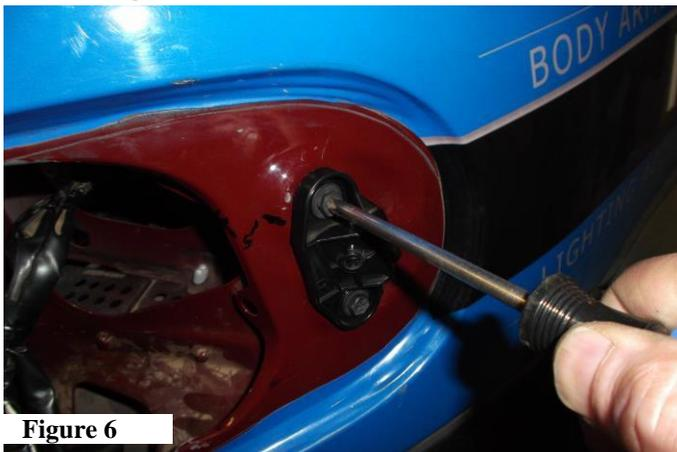

Figure 6
3. After removing the Factory tail lights, remove the side post receivers from the sheet metal by removing the two screws and pulling the plastic away from the sheet metal. See Figure 6.